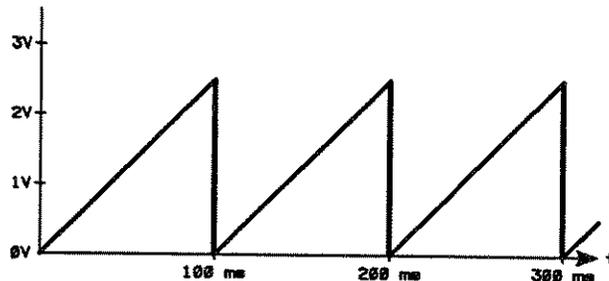

Figure 3-3. Example Sawtooth Waveform
7. Set the controls of the function generator for a sawtooth waveform (see Figure 3-3) that produces the desired power sweep.
generator to generate a sawtooth waveform similar to that in Figure 3-3, and then run the following program.